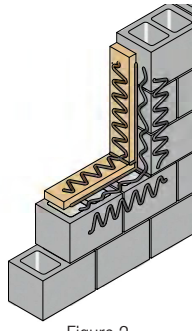

Figure 2
3. Apply a thick bead of MasterSeal AWB 900 in a zigzag pattern to the rough opening and onto the exterior wall. (See Figures 2 & 6).